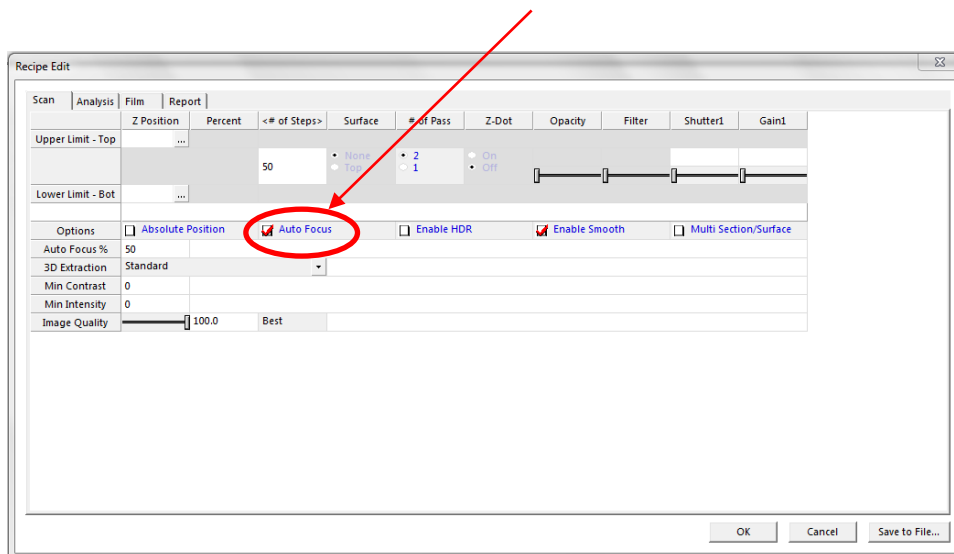

Fig. 32. Recipe Edit window with Auto Focus checkbox
2. In the *Recipe Edit* window, click the checkbox labeled *Auto Focus* (or the label itself), as shown in Fig. 32.